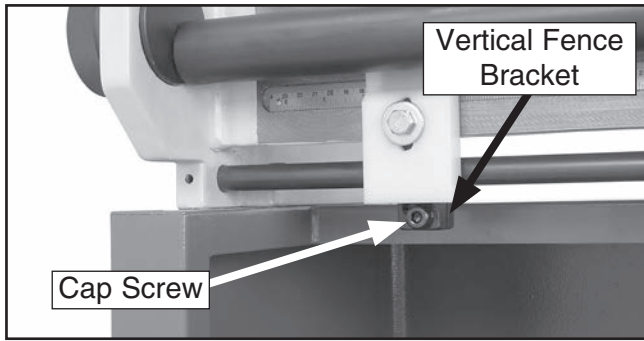

Figure 27. Vertical fence adjustment cap screw.
- Loosen the cap screw on the vertical fence bracket shown in **Figure 27**.